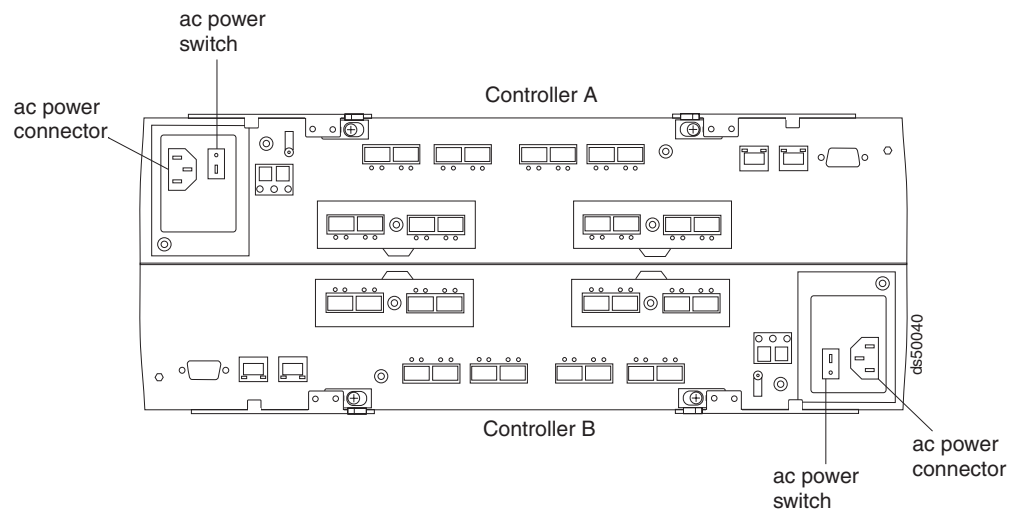

Figure 91. AC power switches on the controllers
5. Turn on the ac power switch on the back of each controller in the storage subsystem. Figure 91 shows the location of the ac power switches on the controllers.